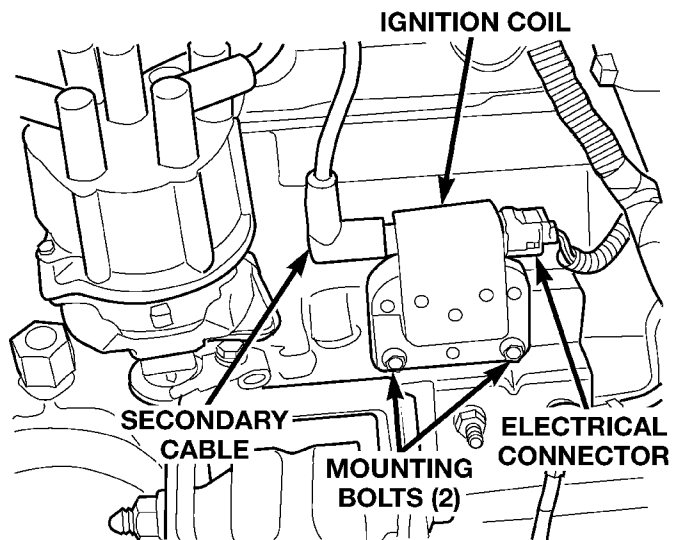

Fig. 37 Ignition Coil—4.0L Engine
(4) Inspect ignition coil connections. Verify that coil secondary cable is firmly connected to coil (Fig. 37).
(5) Verify that distributor cap is correctly attached to distributor. Be sure that spark plug cables are firmly connected to the distributor cap and the spark plugs are in their correct firing order. Be sure that coil cable is firmly connected to distributor cap and coil. Be sure that camshaft position sensor wire connector (at the distributor) is firmly connected to harness connector. Inspect spark plug condition. Refer to Group 8D, Ignition. Connect vehicle to an oscilloscope and inspect spark events for fouled or damaged spark plugs or cables.
(6) Verify that generator output wire, generator connector and ground wire are firmly connected to the generator.